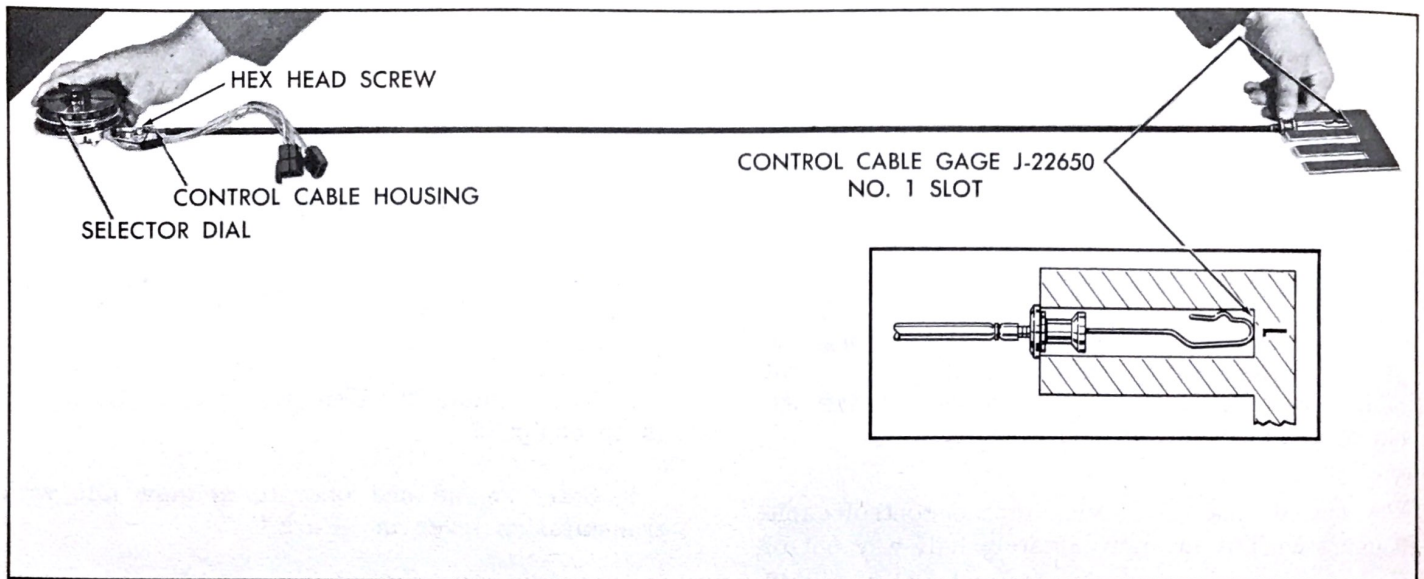

Fig. 15-15 Control Cable Adjustment (693 Styles)
6. On 693 style, thread control cable housing until it is approximately half-way out of control cable clamp. Position No. 1 slot of Control Cable Gage, J-22650, so that end of hook touches stop on gage. Hold hook and gage in this position and thread toward selector control assembly until gage bottoms on ferrule of control cable. While holding in this position, tighten hex head set screw at control cable clamp, Fig. 15-15.